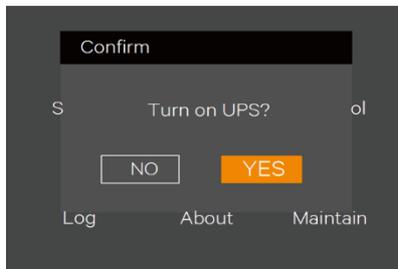

Figure 2-33 UPS turn-on Dialog
2) Press the arrow keys  or  to select and set the relevant parameters (take “output” as an example), See the Figure 2-33. At the same time, configure the battery type in the **Battery** option according to the selected battery type.